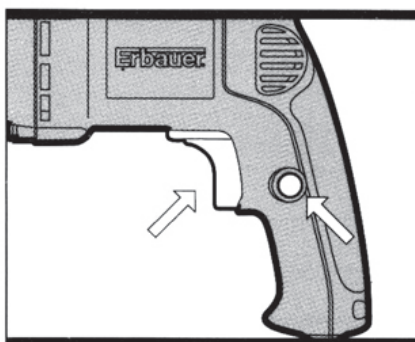

Fig 3
2. Operating the switch (see fig3)